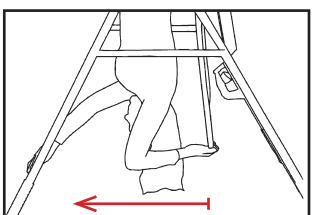

Figure 12
- Place the other hand on the bottom bar of the A-frame in front of you (Figure 12).